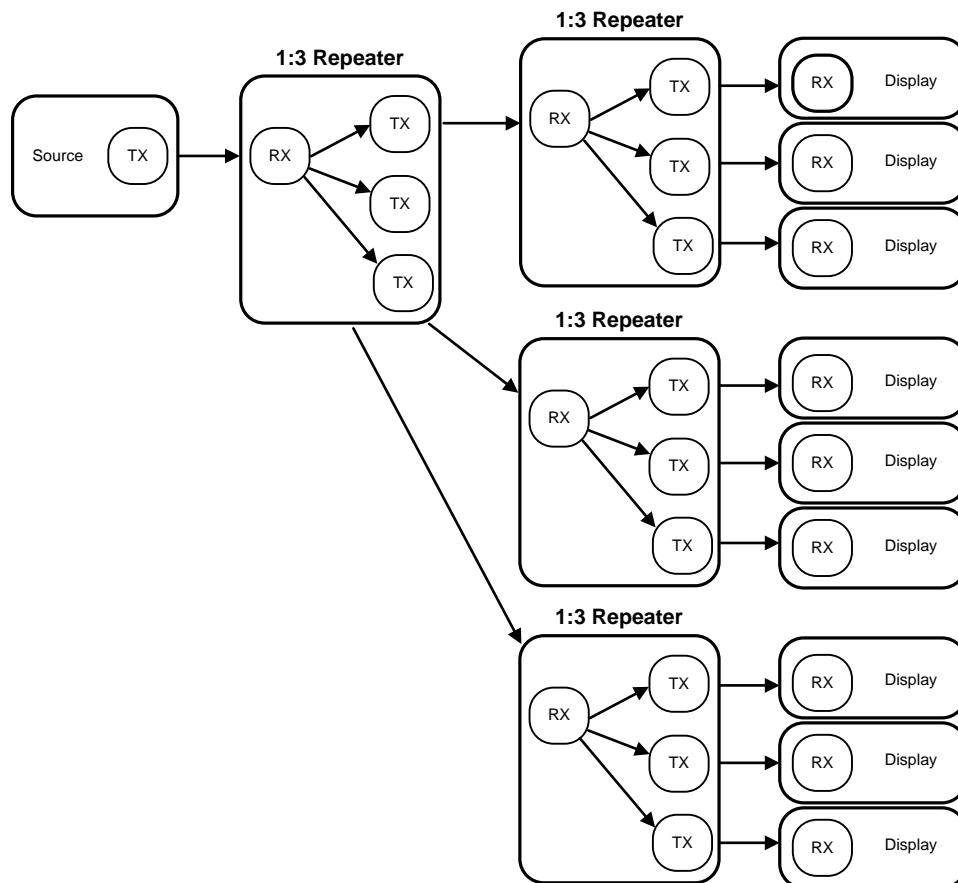

Figure 16. HDCP Maximum Repeater Application
In HDCP repeater application, In this document, the DS90UH925Q-Q1 is referred to as the HDCP Transmitter or transmit port (TX), and the DS90UH926Q-Q1 is referred to as the HDCP Receiver (RX). **Figure 16** shows the maximum configuration supported for HDCP Repeater implementations using the DS90UH925Q-Q1 (TX) and DS90UH926Q-Q1 (RX). Two levels of HDCP Repeaters are supported with a maximum of three HDCP Transmitters per HDCP Receiver.